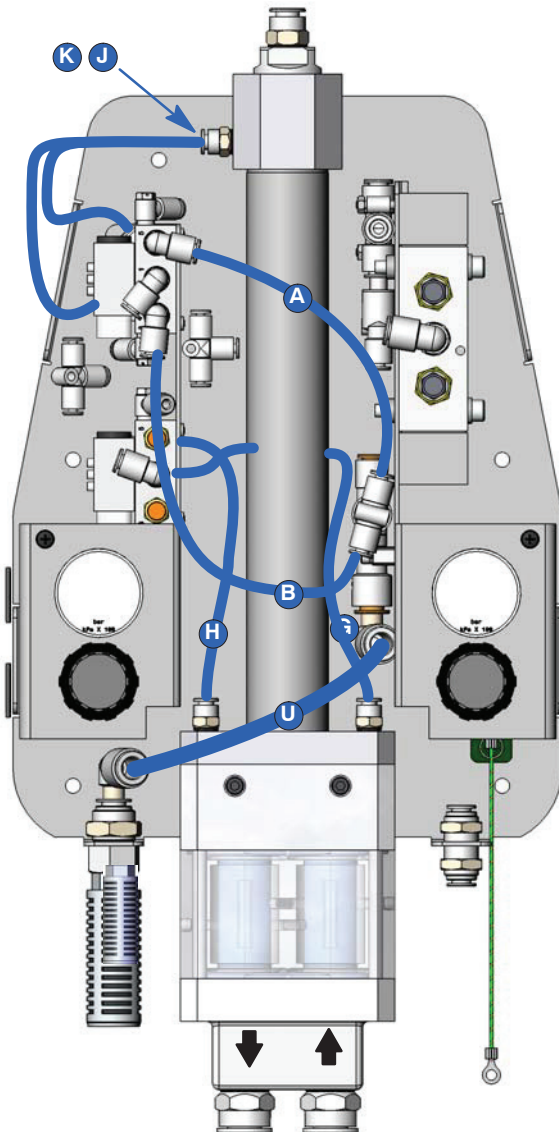

Figure 2 Disconnecting Air Tubing
4. See Figure 2. Disconnect one end of each of the seven air tubes indicated.
3. See Figure 2. Reconnect seven air tubes.